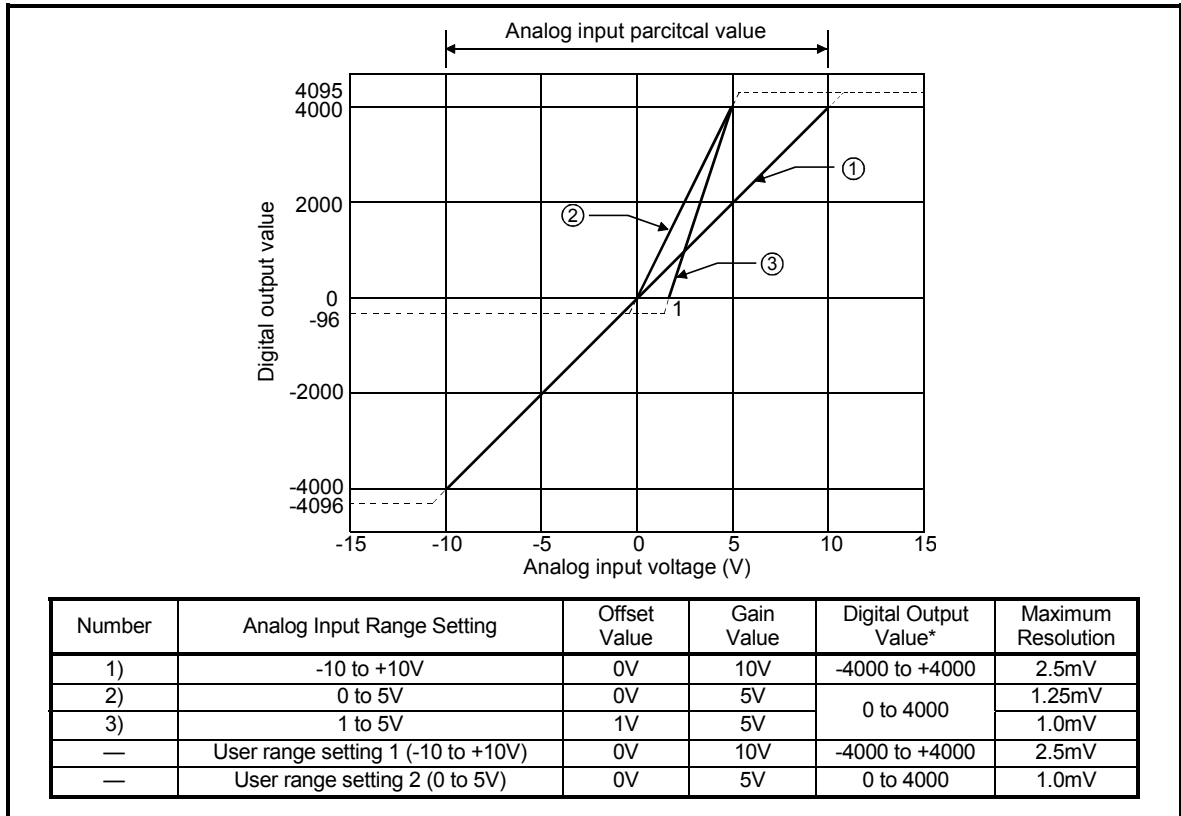

Fig. 3.1 Voltage Input Characteristic
(1) Do not input more than ±15V. The element may be damaged.
(2) If the analog input provided corresponds to the digital output value* beyond its range, the digital output value is fixed to the maximum or minimum. <ul style="list-style-type: none"> • For 0 to 4000, the digital output value is within the range -96 to 4095. • For -4000 to +4000, the digital output value is within the range -4096 to +4095.
(3) Within the analog input and digital output scopes of each input range, the maximum resolution and accuracy are within the performance specification range. Outside those scopes, however, they may not fall within the performance specification range. (Avoid using the dotted line part in Fig. 3.1.)
(4) Set the offset and gain values of the user range setting within the range satisfying the following conditions. <ul style="list-style-type: none"> (a) Setting range when user range setting 1 is selected: -10 to +10V (b) Setting range when user range setting 2 is selected: 0 to 5V (c) (Gain value) > (Offset value) If you attempt to make setting outside the setting range of (a) or (b), the "RUN" LED flickers at 0.5s intervals. Set the values within the setting range. If you attempt to make setting outside the setting range of (c), the "RUN" LED flickers at 0.5s intervals. Make setting again.